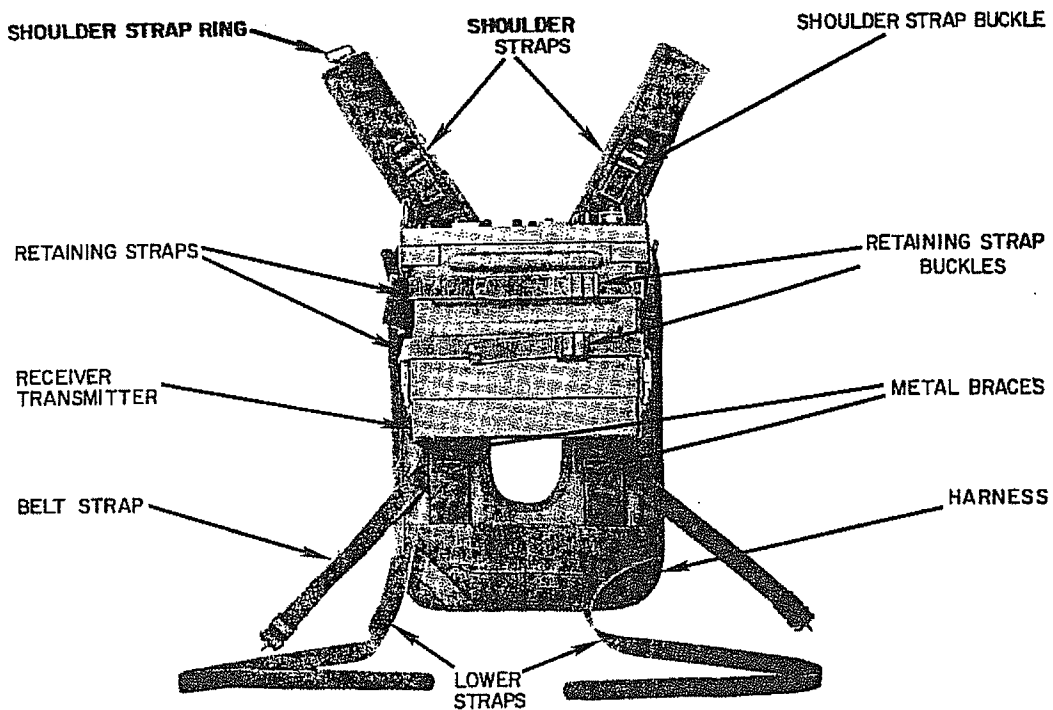

Figure 2-4. Assembly of Receiver-Transmitter to Harness
c. Assembly of Receiver-Transmitter RT-6241T to Harness ST-138 (fig. 2-4)
- (1) Spread the ST-138 out on a flat surface, with the metal braces facing up.
- (2) Place the RT-6241T on the ST-138 with its front panel toward the top and the CY-6600T (battery box) resting on the metal braces of the ST-138.
- (3) Fasten the RT-6241T to the ST-138 using the two retaining straps; feed the metal-tipped end of each strap under its retaining